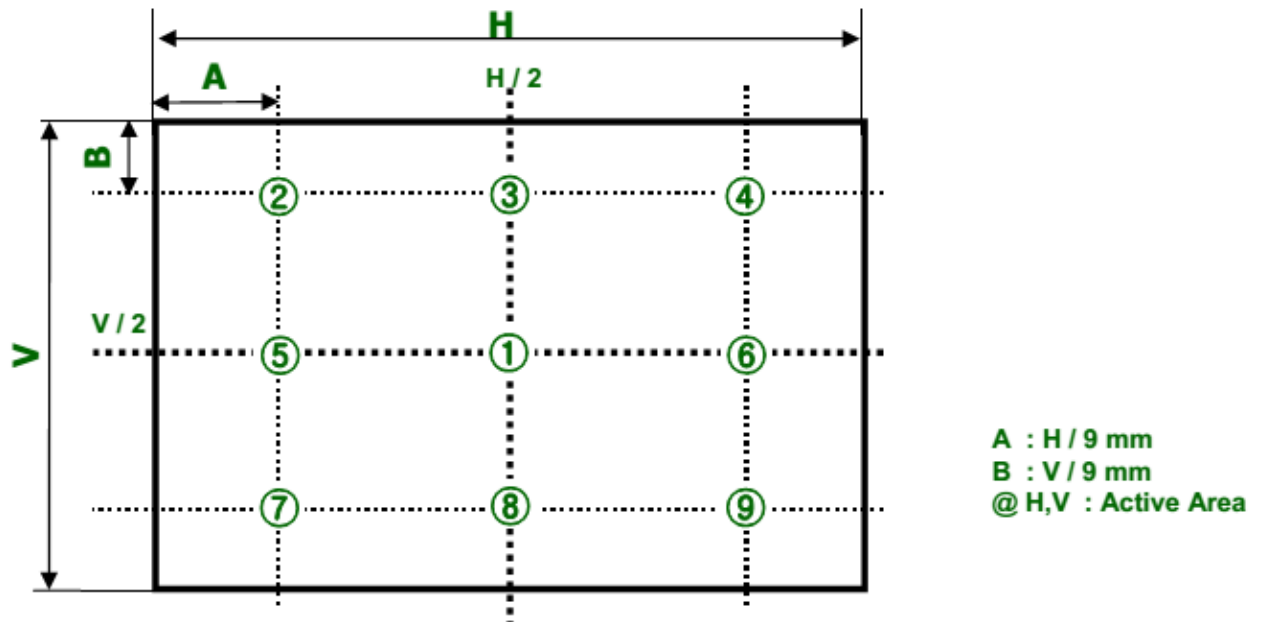

FIG . 2
2. Surface luminance is determined after the unit has been 'ON' and 1 Hour after lighting the backlight in a dark environment at $25 \pm 2^\circ\text{C}$. Surface luminance is the luminance value at center 1-point across the LCD surface 50cm from the surface with all pixels displaying white. For more information see the FIG. 2
3. The variation in surface luminance, WHITE is defined as : $\text{WHITE}(9P) = \frac{\text{Minimum (Lon1, Lon2 \sim Lon8, Lon9)}}{\text{Maximum (Lon1, Lon2 \sim Lon8, Lon9)}} \times 100$ Where Lon1 to Lon9 are the luminance with all pixels displaying white at 9 locations For more information, see the FIG. 2.